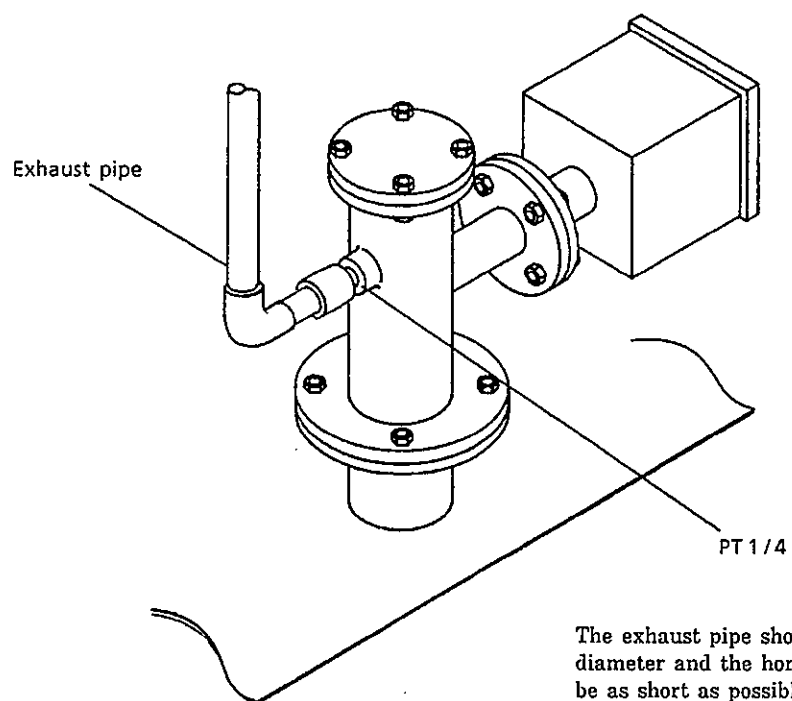

Figure 4.6 Installing the exhaust pipe
- If a high-temperature detector is used and no piping can be installed for the reference gas, place piping in the exhaust hole for the sample gas on the high-temperature probe adapter so that the sample gas is carried away from the vicinity of the detector (see Section 4.1.4, Figure 4.6).
If the sample gas is to be vented at a distance from the detector because no reference gas piping can be provided, the exhaust pipe should be installed as illustrated in Figure 4.6.